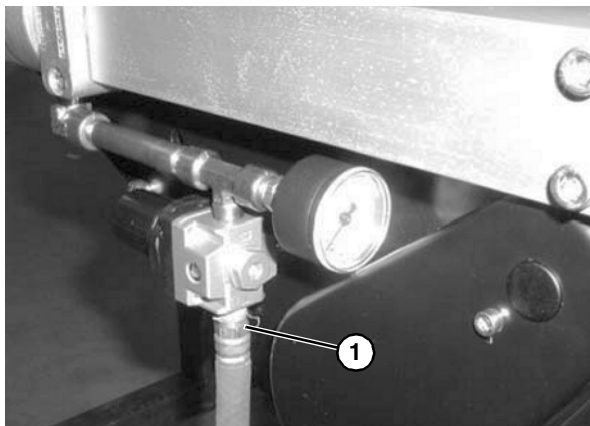

Figure 86
1. Remove air supply and remove hose (**Figure 86, item 1**) from center drive.